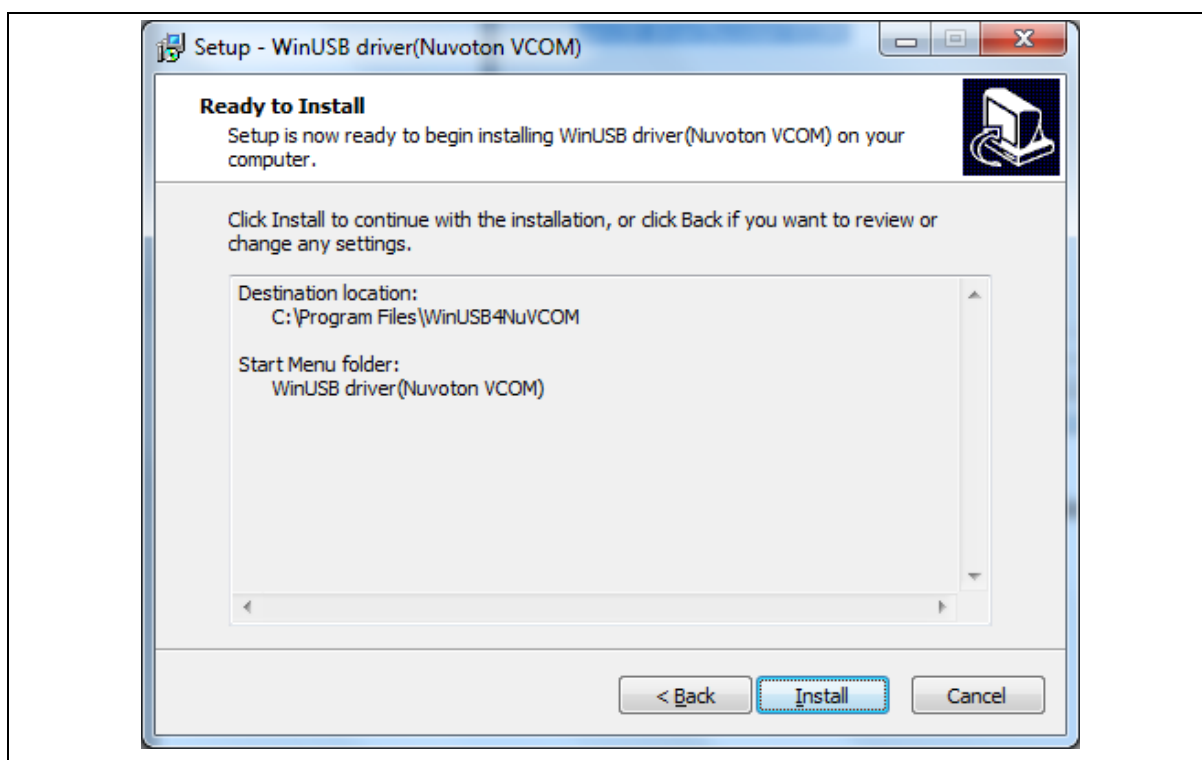

Figure 2-5 WinUSB4NuVCOM Driver Setup (5)
Step 5: Click "**Install**" (Figure 2-5).